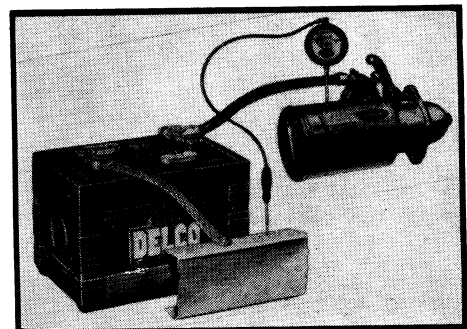

Fig. 5 Checking voltage drop between vehicle frame and starter motor field frame
2. Voltage drop between car frame and starting motor field frame, Fig. 5.